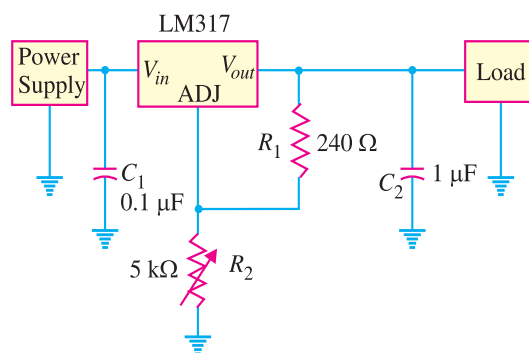

Fig. 17.35
5. If R_2 in Fig. 17.35 is adjusted to $1.68 \text{ k}\Omega$, determine the regulated d.c. output voltage for the LM 317. [10 V]